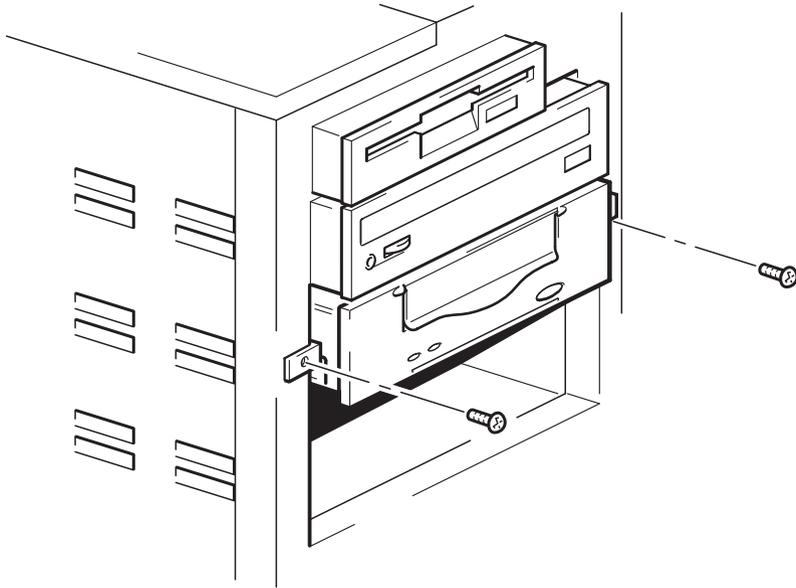

Figure 9a: securing drive to mounting hardware
- 1 Secure the tape drive into place. Use the screws you removed in “Step 3: Prepare the mounting bay” on page 15 to fix the drive in place, as shown in figure 9a.